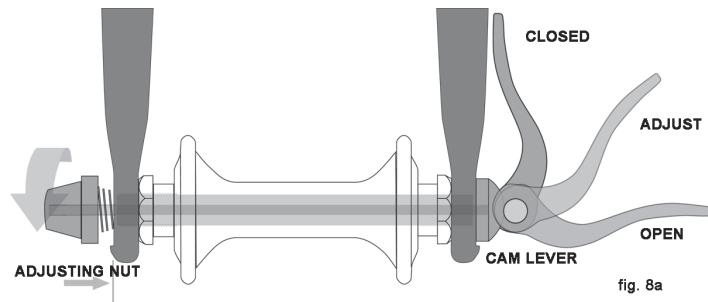
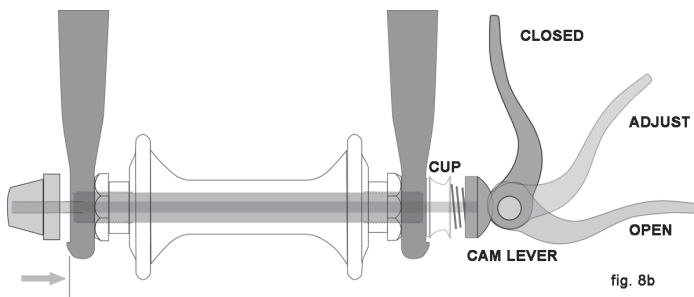
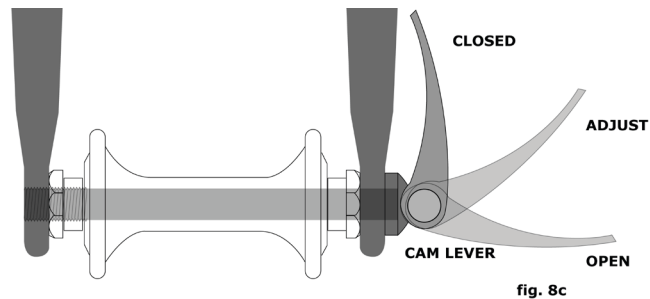

fig. 8a
fig. 8b
fig. 8c
There are currently three types of over-center cam wheel retention mechanisms: the traditional over-center cam (fig. 8a), and the cam-and-cup system (fig. 8b), and the threaded, through-bolt over center cam system (fig. 8c). All three use an over-center cam action to clamp the bike's wheel in place. People also commonly refer to these as quick-release axles. Your bicycle may use one of these styles for the front wheel, and a different for the rear wheel.
a. Adjusting the traditional cam action mechanism (fig. 8a)
b. Adjusting the cam-and-cup mechanism (fig. 8b)
(2) If your bike has cam action front wheel retention or "quick-release axle," move the cam lever from the locked or CLOSED position to the OPEN position (figs. 8a & b). If your bike has through bolt or bolt-on front wheel retention, loosen the fastener(s) a few turns counterclockwise using an appropriate wrench, lock key or the integral lever.
(3) If your front fork has a clip-on type secondary retention device, disengage it and go to step (4). If your front fork has an integral secondary retention device, and a traditional cam action system (fig. 8a) loosen the tension adjusting nut enough to allow removing the wheel from the dropouts. If your front wheel uses a cam-and-cup system, (fig. 8b) squeeze the cup and cam lever together while removing the wheel. No rotation of any part is necessary with the cam-and-cup system.
(1) If your bike has cam action front wheel retention, move the cam lever so that it curves away from the wheel (fig. 8b). This is the OPEN position. If your bike has through bolt or bolt-on front wheel retention, go to the next step.
(2) With the steering fork facing forward, insert the wheel between the fork blades so that the axle seats firmly at the top of the fork dropouts. The cam lever, if there is one, should be on rider's left side of the bicycle (fig. 8a & b). If your bike has a clip-on type secondary retention device, engage it.
(3) If you have a traditional cam action mechanism: holding the cam lever in the ADJUST position with your right hand, tighten the tension adjusting nut with your left hand until it is finger tight against the fork dropout (fig. 8a). If you have a cam-and-cup system: the nut and cup (fig. 8b) will have snapped into the recessed area of the fork dropouts and no adjustment should be required.
(4) While pushing the wheel firmly to the top of the slots in the fork dropouts, and at the same time centering the wheel rim in the fork:
(a) With a cam action system, move the cam lever upwards and swing it into the CLOSED position (fig. 8a & b). The lever should now be parallel to the fork blade and curved toward the wheel. To apply enough clamping force, you should have to wrap your fingers around the fork blade for leverage, and the lever should leave a clear imprint in the palm of your hand. (b) With a through-bolt or bolt-on system, tighten the fasteners to the torque specifications in the hub manufacturer's instructions.
(3) On a derailleur gear system, pull the derailleur body back with your right hand. Some rear derailleurs have a "lock" button designed to hold the derailleur in an open position when removing the rear wheel. Feel free to use this feature if your derailleur is equipped with it.
(4) With a cam action mechanism, move the quick-release lever to the OPEN position (fig. 8b). With a through bolt or bolt on mechanism, loosen the fastener(s) with an appropriate wrench, lock lever or integral lever; then push the wheel forward far enough to be able to remove the chain from the rear sprocket.
(5) Lift the rear wheel off the ground a few inches and remove it from the rear dropouts.
Some bikes are equipped with a cam action seatpost binder, also commonly referred to as a "seatpost quick release." The seatpost cam action binder works exactly like the traditional wheel cam action fastener (Section 4.A.2) While a cam action binder looks like a long bolt with a lever on one end and a nut on the other, the binder uses an over-center cam action to firmly clamp the seatpost (see fig. 8a).